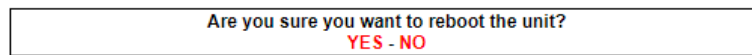

Figure 59. Configurator GUI (unit reboot dialog)
- The unit reboot dialog will be shown (Figure 59 (page 110)).